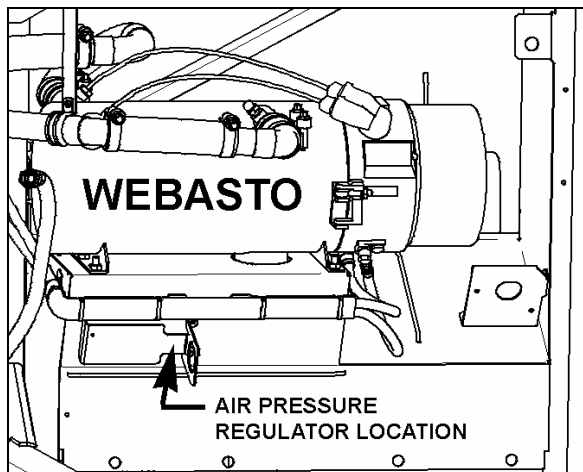

FIGURE 13: AIR PRESSURE REGULATOR (TYPICAL) 07130
20. Adjust the retarder pressure to  $80 \pm 3$  psi with the air pressure regulator. For more information refer to Section 12, "BRAKE AND AIR SYSTEM", under heading "AIR PRESSURE REGULATOR". The air pressure regulator is located near the Webasto in engine compartment, on R.H. side (Fig. 13).